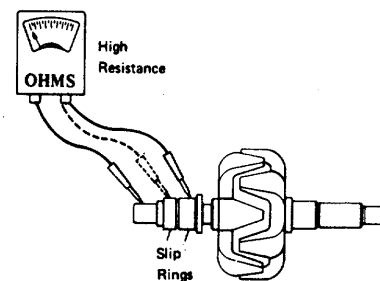

FIG. 20
1. With the ohmmeter connected between the rotor shaft and either slip ring, no reading (infinity) should be obtained. If an ohmmeter reading other than infinity is obtained, the rotor coil is grounded and the rotor must be replaced (see Fig. 20).